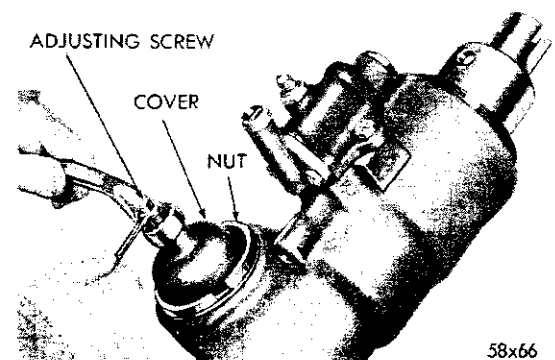

Fig. 46—Steering Gear Shaft Adjustment
(1) Remove the oil reservoir cover and fill the reservoir to the bottom of the filler neck opening.
(2) Connect the test hoses, Tool C-3211 and Tool C-3318, with the proper adapters to the hydraulic pump on the vehicle with pressure gauge Tool C-3309B installed between the pump and the steering gear to register the pressures.
(3) Start the engine and operate at idle to bring the steering gear to normal operating temperature.
(4) Expel all the air from the unit by turning the worm shaft several times to the right and then to the left.
(5) Refill the reservoir before proceeding with the following test and adjustments on the bench:
b. With the gear shaft on center, tighten the gear shaft adjusting screw until the backlash just disappears. Tighten $1\frac{1}{4}$ turns from this position and while holding the adjusting screw in this position, tighten the lock nut (Fig. 46).